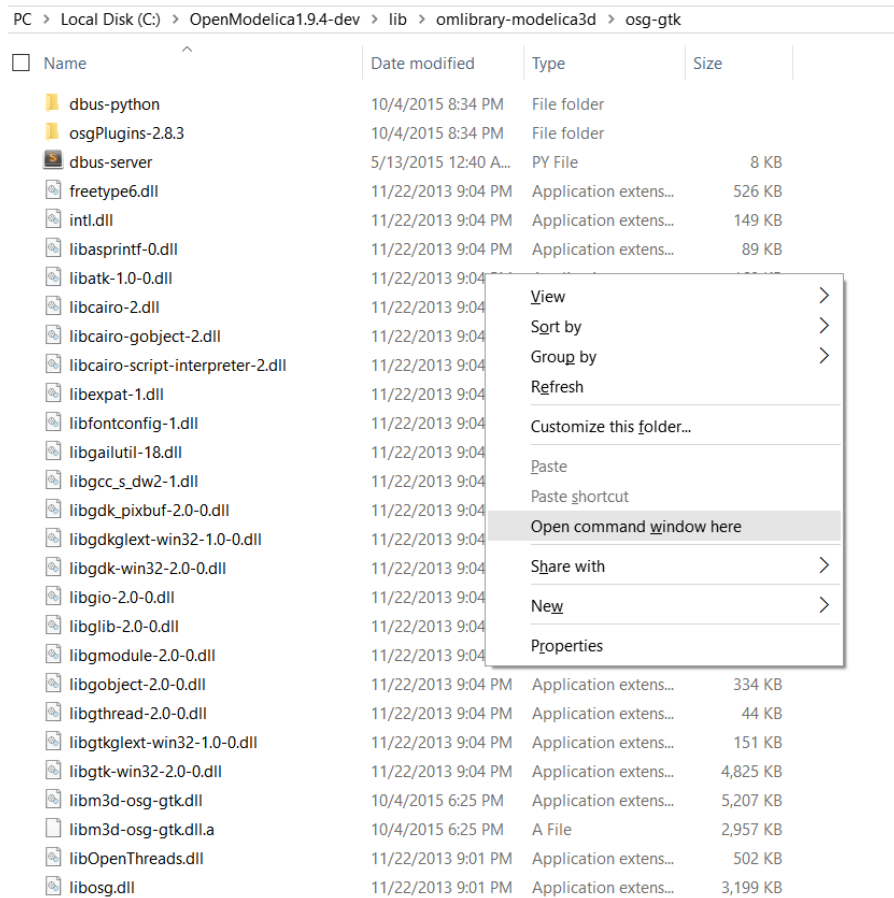

Figure 5: Opening a Command Window from a Folder
- Open a command window for this folder. This can be done by holding down shift and right clicking in the folder or navigating to the folder using the command prompt by entering “cd OPENMODELICAHOME/lib/omlibrary-modelica3d/osg-gtk”. The shift right command is shown in Figure 5.